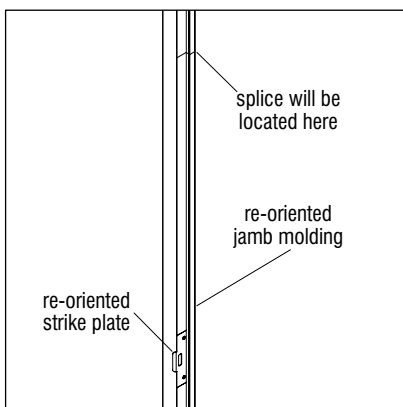

Figure 3 - After Field Reverse
3. Flip the cut moldings and re-install them opposite of the original orientation. The splice in the cut jamb molding will be near the top of the door frame above the strike notch as illustrated (Figure 3).